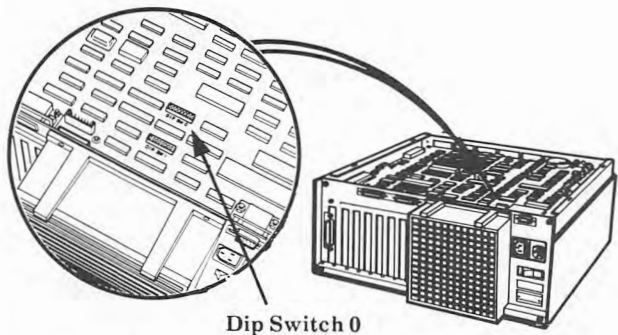

Figure 2-11. Location of DIP Switch 0.
14. Locate DIP Switch 0 on the processor board. See Fig. 2-11.